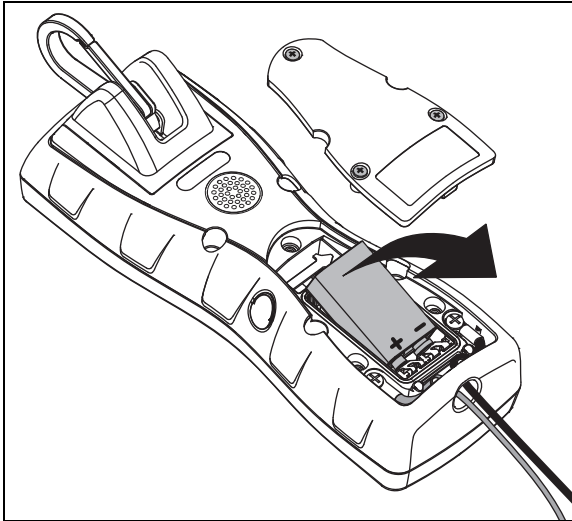

Figure 6. How to Replace the Battery
See Figure 6.
- 1 Use a Phillips screwdriver to loosen only the three screws on the battery door (Figure 6).
- 2 Remove the battery door and battery from the test set. (Figure 6)